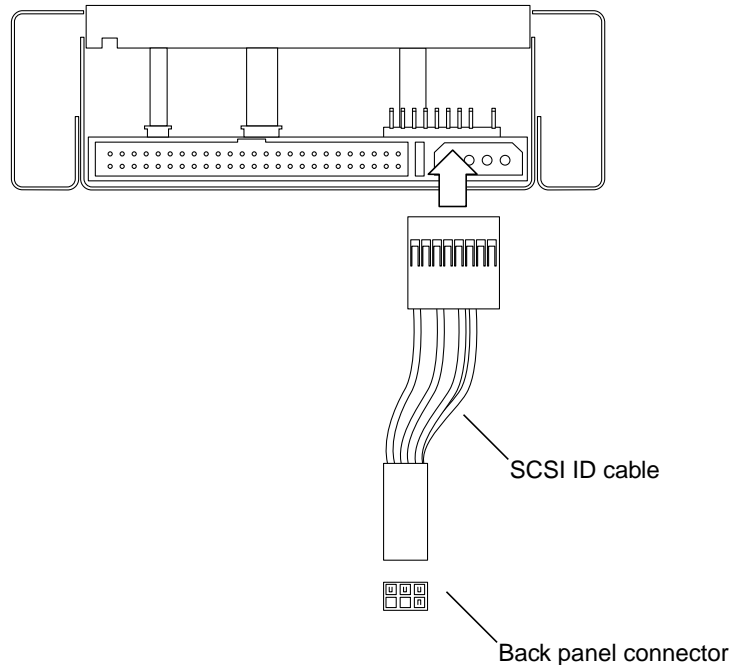

Figure 5 Location of SCSI Address Jumpers
1. **Connect the SCSI ID cable from the target ID switch on the interior back panel of the enclosure to the ID cable on the tape drive (Figure 5).**